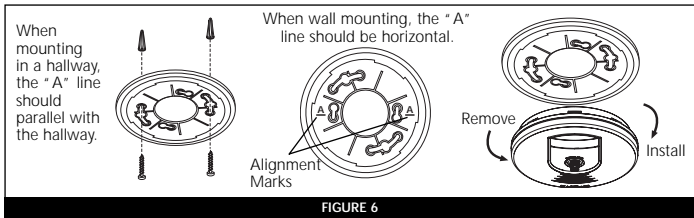

FIGURE 6
3. Hold the mounting plate against the selected installation location (wall or ceiling) and mark the center of the holes with a pencil. To ensure aesthetic alignment of the alarm, the "A" line on the mounting plate should be parallel with the hallway when ceiling mounting, or horizontal when wall mounting (see Figure 6).